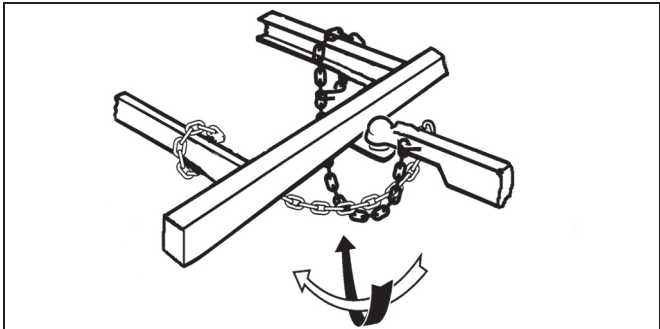

Figure 4-5 - Safety Chain Arrangement W/O Surge Brakes
- Provide enough slack to permit tight turns, but not be close to the road surface to drag. See figure 4-5 or 4-6.